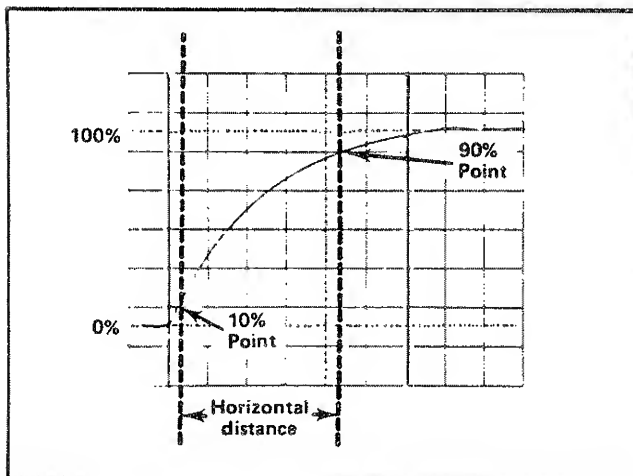

Fig. 1-9. Measuring risetime.
4. Set the time-base triggering controls to obtain a stable display. Set the Sec/Div switch to the fastest sweep rate that will display less than eight divisions between the 10% and 90% points on the waveform (see Fig. 1-9).